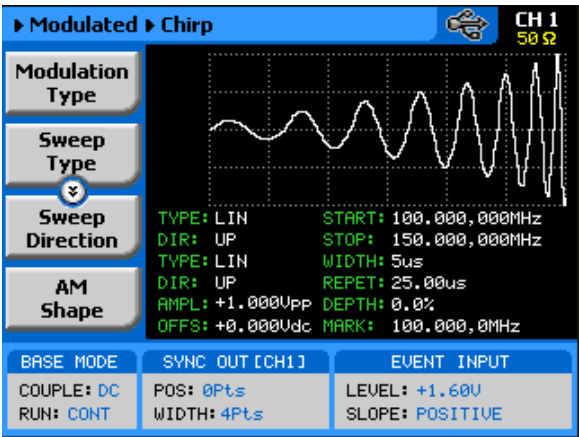

Figure 3-40: Chirp Menus
Chirp modulation allows carrier waveform (CW) to sweep from one frequency, as defined by the sweep start parameter, to another frequency, as defined by the sweep stop parameter while, at the same time, swing through an amplitude range, as defined by the amplitude and AM Depth index. When you select chirp modulation, the menus, as shown in *Figure 3-40* and described in the following paragraphs, will be available for modification.